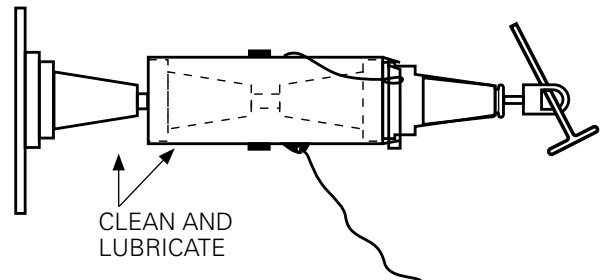

Figure 3. Installing the bushing adapter onto the apparatus bushing
- Insert the 5/16" torque tool into the 200 A tap and engage the rotating nut. (Refer to Figure 3.)